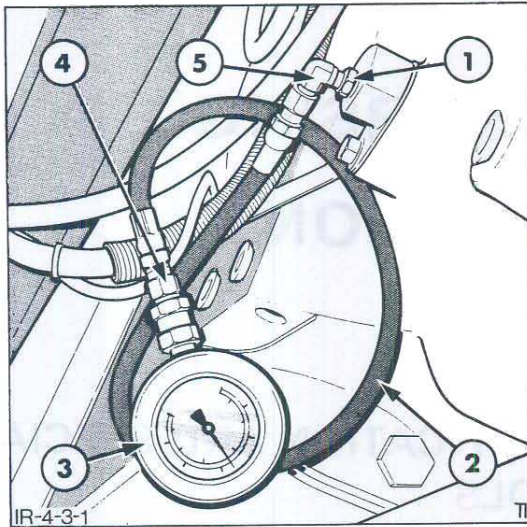

Figure 1
- Attach gauge FT 4100 to the pressure test port connection using Pipe FT 4100-1 and connector Tool No. FT 5007 on the test port as shown in Figure 1.
1. If not previously installed, attach gauge FT 4100 to the pressure test port connection using Pipe FT 4100-1 and connector Tool No. FT 5007 on the test port as shown in Figure 1.